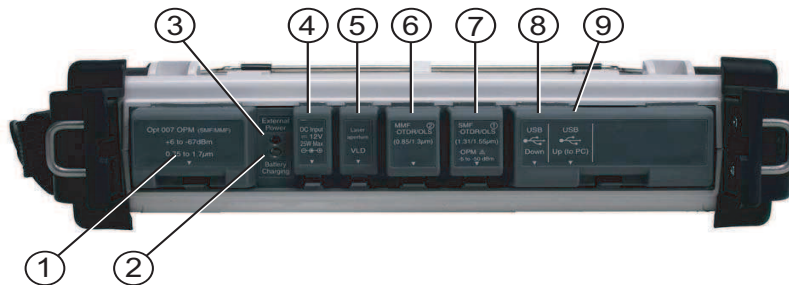

Figure 2-3: MT9083 Series— Top Panel
Figure 2-3 provides an example of a typical unit's top panel.
1. Attach the jack from the AC charger/adapter to the DC input located on the top connector panel of the MT9083 Series (see Figure 2-3 on page 2-10).
2. Attach the jack from the AC charger/adapter to the DC input located on the top connector panel of the MT9083 Series (see Figure 2-3 on page 2-10).
4. Insert the plug from the AC line cord into an AC outlet; high-speed charging starts. The Battery Charging indicator lamp (see item 2 in Figure 2-3 on page 2-10) is illuminated while the battery pack is charging.
The measurement ports on the MT9083 Series are located on the top panel of the unit (see items 6 and 7 in Figure 2-3 on page 2-10). Depending on the model of the MT9083 Series, there are either one or two measurement ports. The measurement port to which a fiber is connected depends on the test application and the wavelength to be measured. The MT9083 Series can also be equipped with a optional Visual Fault Locator, accessed via the VLD port.